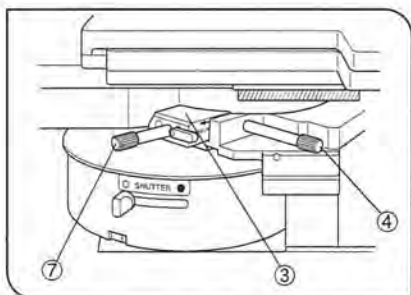

Fig. 61
6. Slide the prism movement knob ⑦ of the DIC slider in the clockwise direction around the axis until the knob is stopped. A black interference stripe then a rainbow-colored interference stripe will be observed. Here, stop the knob at the position with which the black interference stripe can be seen. (Figs. 61 & 66)